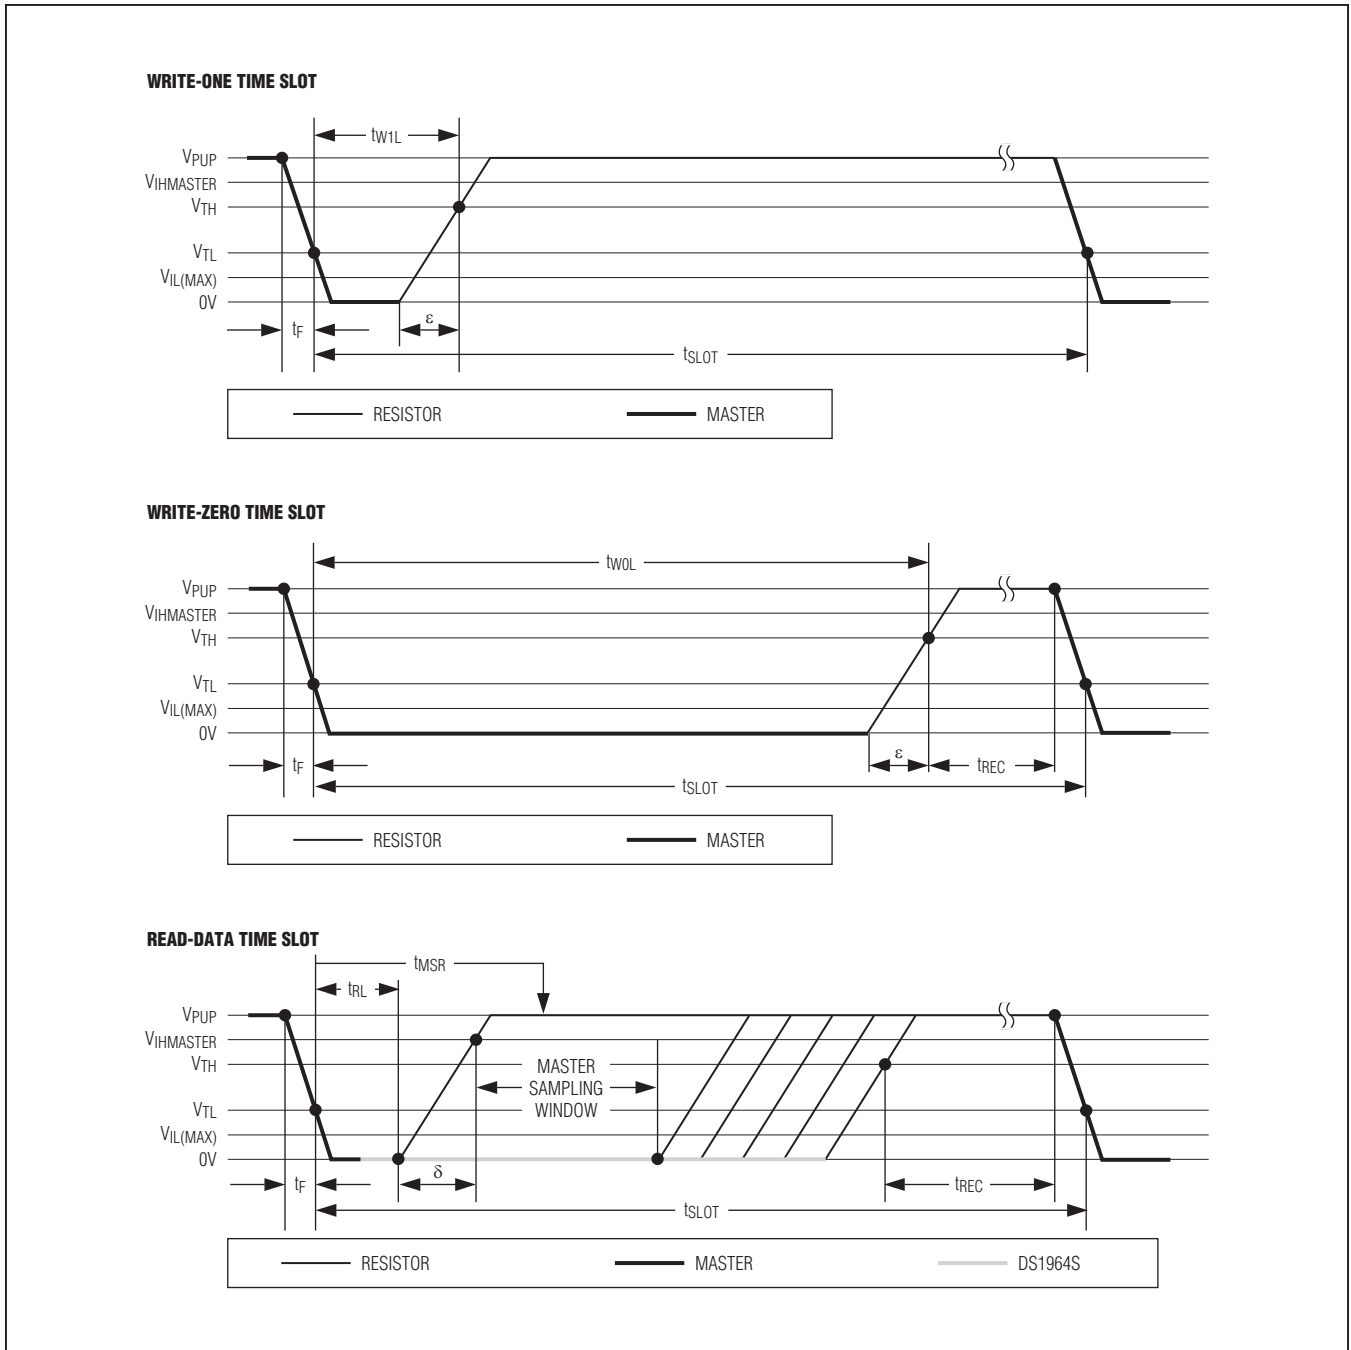

Figure 6. Read/Write Timing Diagrams
- Note 16:** ε in Figure 6 represents the time required for the pullup circuitry to pull the voltage on IO up from V_{IL} to V_{TH}. The actual maximum duration for the master to pull the line low is t_{W1L(MAX)} + t_F - ε and t_{W0L(MAX)} + t_F - ε, respectively.
- Note 17:** δ in Figure 6 represents the time required for the pullup circuitry to pull the voltage on IO up from V_{IL} to the input-high threshold of the bus master. The actual maximum duration for the master to pull the line low is t_{RL(MAX)} + t_F.
Data communication with the DS1964S takes place in time slots that carry a single bit each. Write time slots transport data from bus master to slave. Read time slots transfer data from slave to master. Figure 6 illustrates the definitions of the write and read time slots.